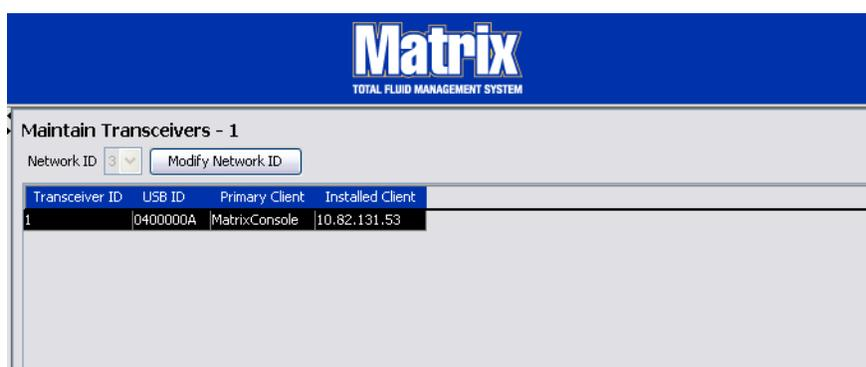

FIG. 61
1. When a transceiver is plugged into the PC USB port it automatically is added to the top of the list and assigned the first available Transceiver ID number as shown in FIG. 61. Unplugging or powering down the transceiver will not cause transceiver to disappear from the list of transceivers, although either operation will cause communication over that device to stop immediately.